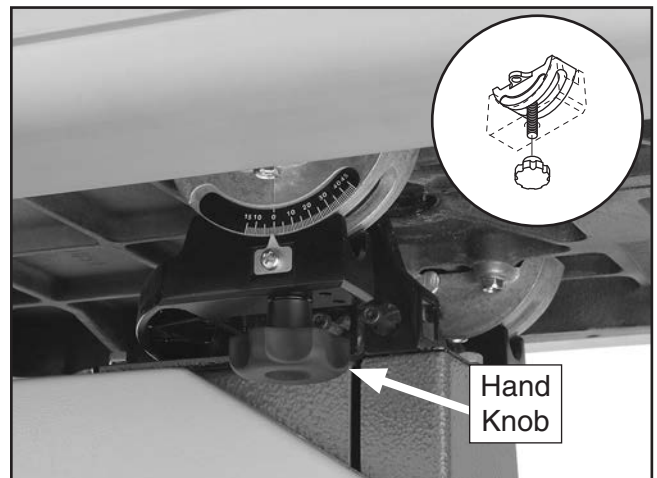

Figure 15. Table installed on trunnions.
14. Thread the table trunnion hand knobs onto the table bolts to secure the table (**Figure 15**).